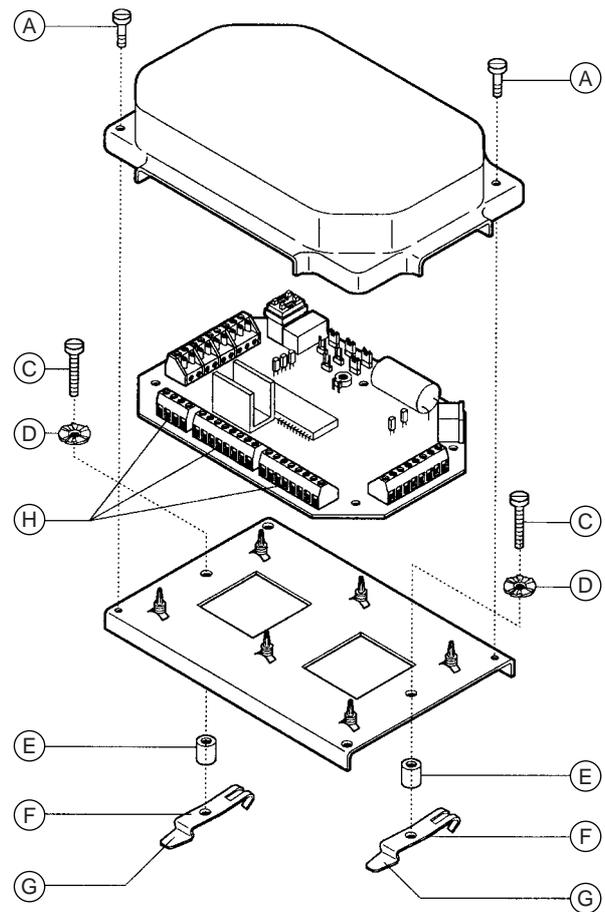
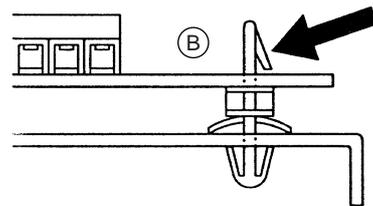

Fig. 1
Fig. 2
- Back off screws A (Figure 1) and take off cover. Release spacers B and remove the electronic circuit board from base (Figure 2).
- Insert screws C and the associated washers D in the holes provided on base. Install spacer E and fully tighten screws C, taking care to position tab G on clips F so that it faces removable terminal blocks H (Figure 1).